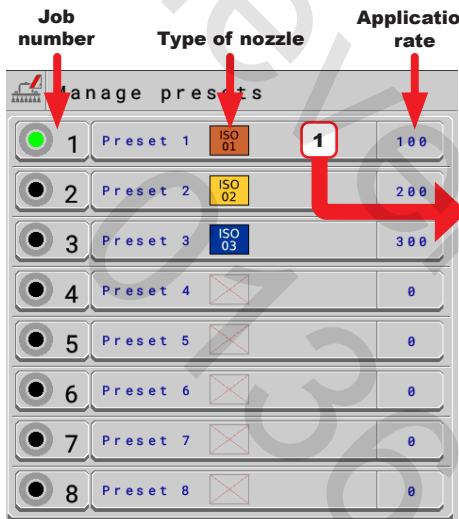

Fig. 69
- Setting 20 different treatment configurations: **PRESET SETTING**, Fig. 69.